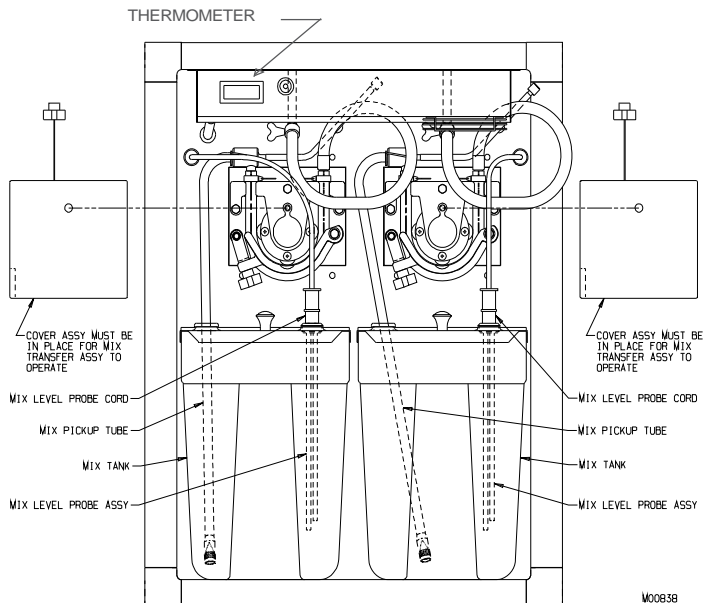

Figure 5-2
5.8 Thermometer - Cabinet (See Figure 5-2)